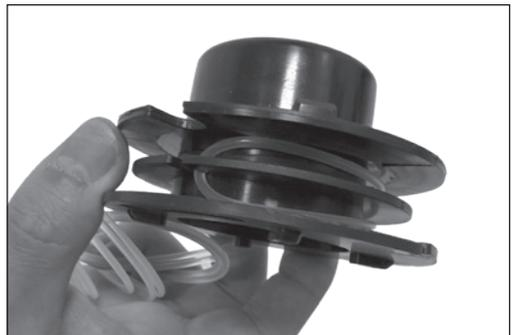

Fig.47
4. To install the new spool line – find the middle of the replacement line and hook into the insert point shown in Fig.47.